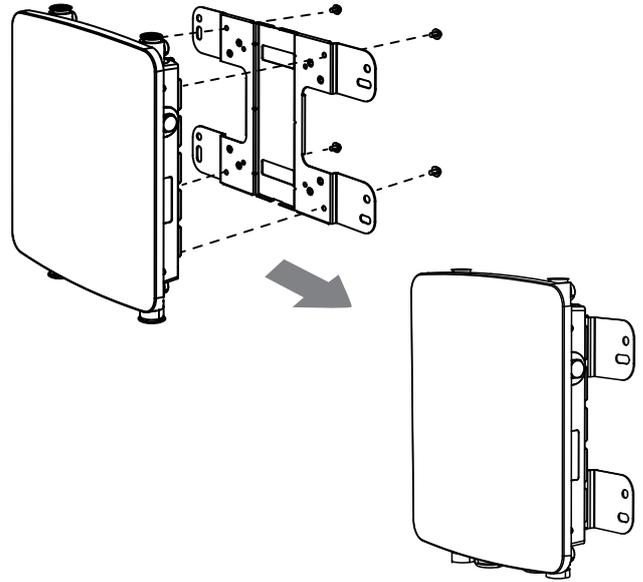

Figure 9: Mounting the base plate
3. Place and lock the flat washer on the cap screws and attach the mounting plate to the back of the DWL-8710AP using the screws as illustrated in figure 9.